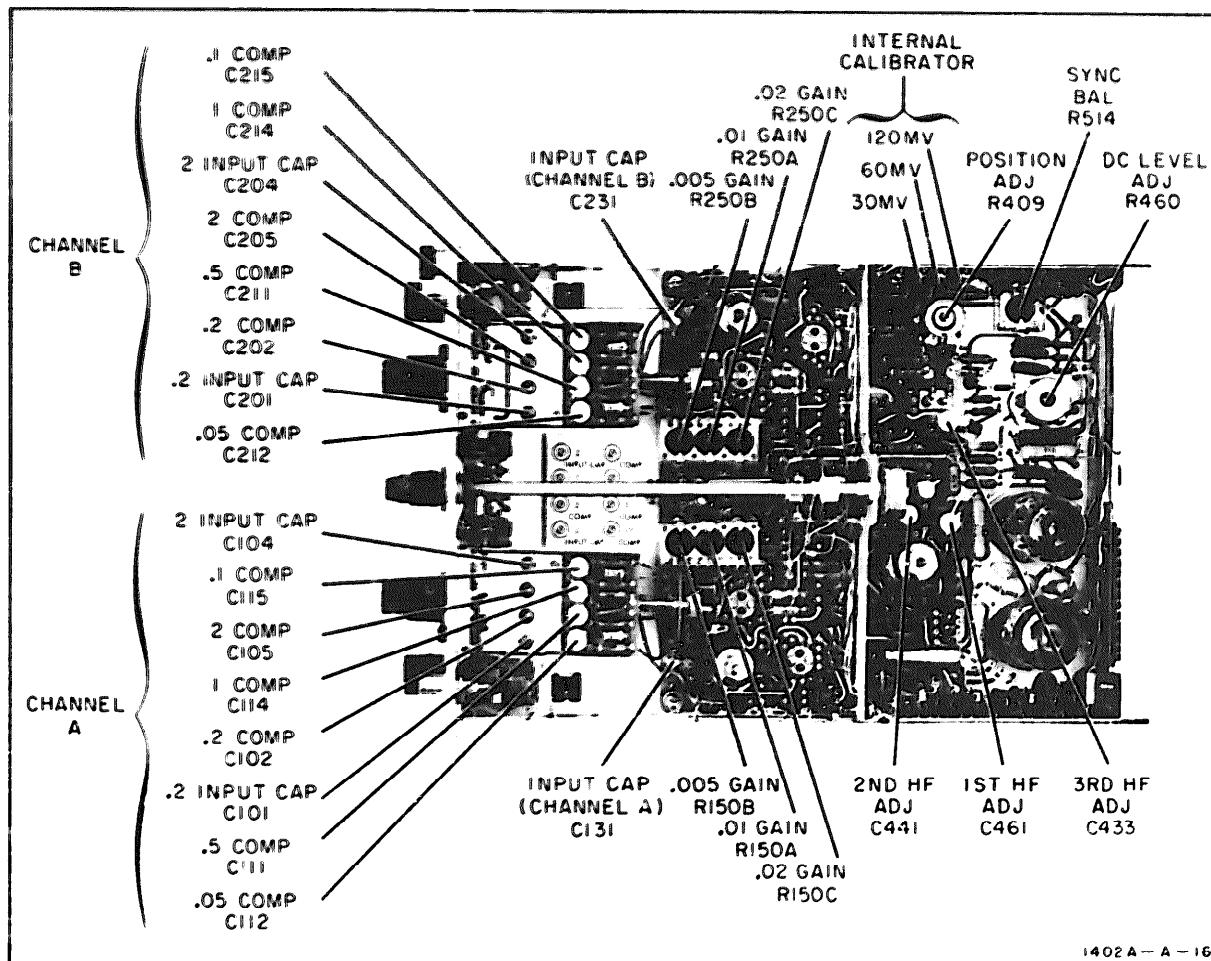

Figure 2-12. Location of Adjustments
a. EQUIPMENT NEEDED FOR ADJUSTMENTS. Test equipment recommended for the adjustment procedure is listed in Table 2-2, items 3 through 7. Similar instruments having the listed characteristics may be substituted.
b. LOCATION OF ADJUSTMENTS. Figure 2-12 shows the location of all internal adjustments in the Model 1402A.